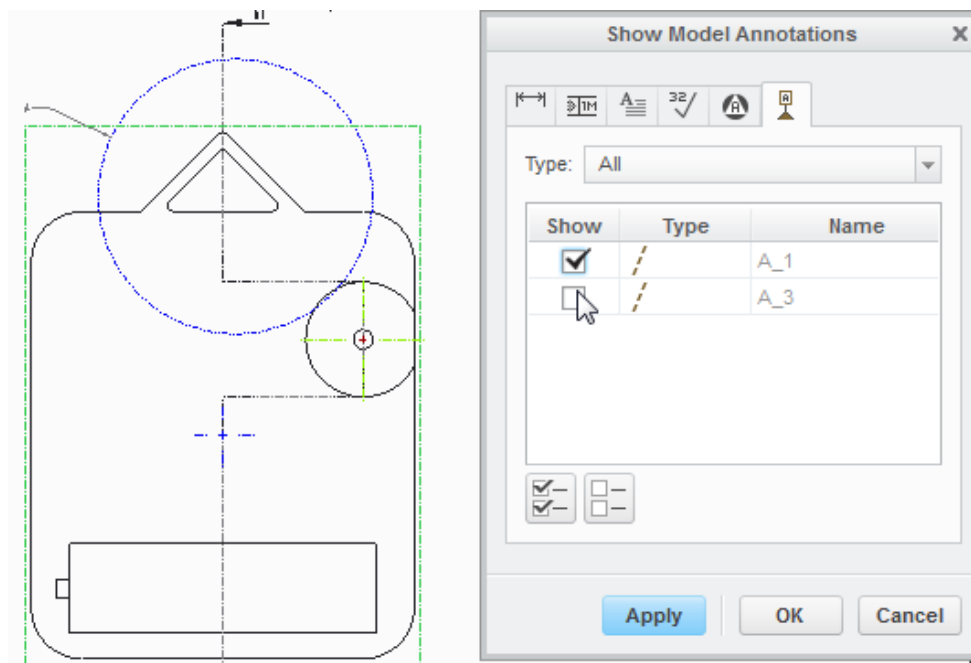

Figure 12: View selected, one axis selected, selection another one (green highlighting)
3. Select the view / feature which axes you want to see (Figure 12).
For example, in Figure 12 battery slots needs to have an axis (Figure 14).